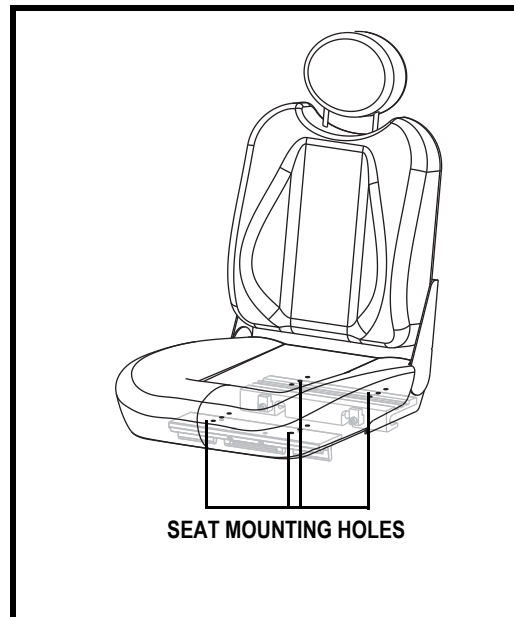

Figure 16. Seat Position Adjustment
5. Reposition the extrusions on a different set of mounting holes. You must move both extrusions the same number of holes either forward or rearward. See **figure 16**.